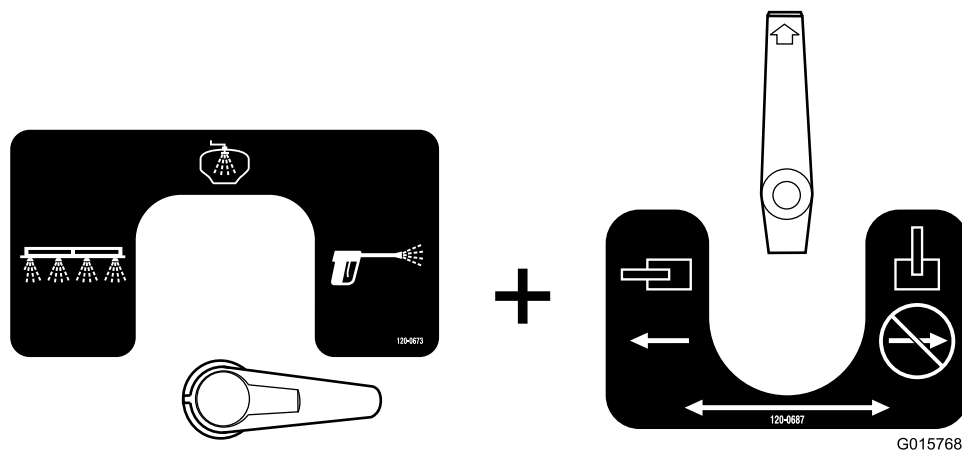

Figure 35
- This is the spray gun configuration (Figure 35). Use this configuration to spray rinse water out of the hand spray gun.